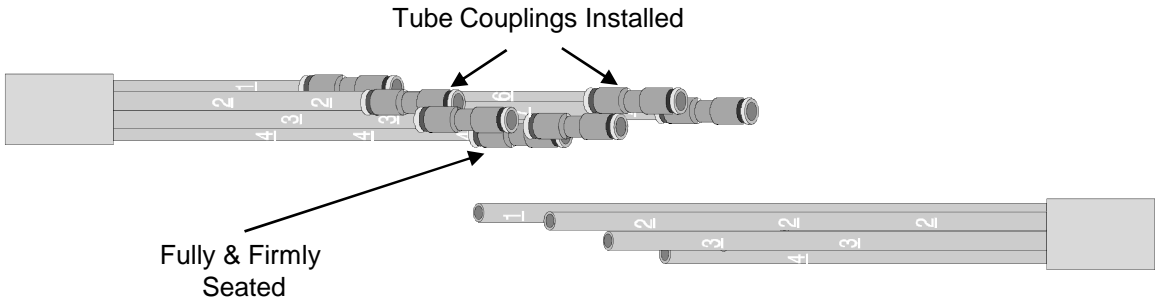

Figure 21
13.10 Choose one tube cable and install a Tube Coupling on each tube. Be sure each tube is pushed all the way into its coupling and fully and firmly seated. **See Fig. 21.**